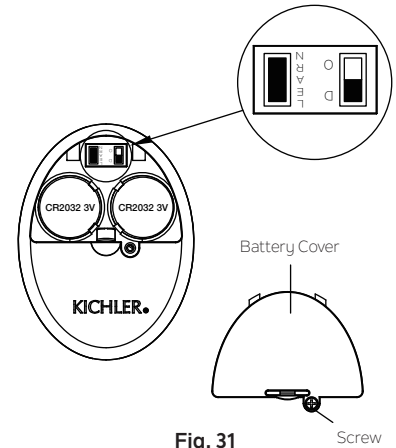

Fig. 31
Otherwise the remote control will not work. To perform this process manually, follow steps below: After installing and wiring the unit, restore power to your fan, press and hold the LEARN key for 1-3 seconds, the fan will turn on at medium speed and light (if installed) will turn on. This confirms that the learning process have been completed. This operation must be completed within 30 seconds after restoring power to the fan. (Fig. 31)
NOTE: Ensure slide switch in battery compartment marked “D O” is set to “D” position. (Fig. 31)
Step 4. Replace the battery cover and tighten with screwdriver. (Fig. 31)